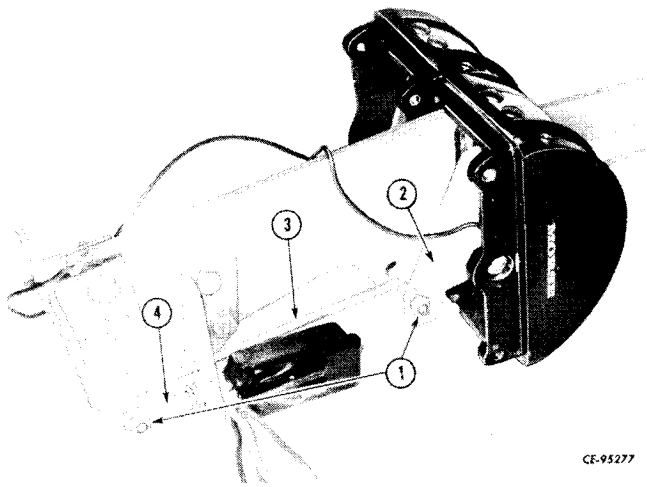

Figure 9-12
(4) so the flat side of pin is in position for the locking screw (3). Tighten lock screw (3). Position lever handles (2) on ends of control levers and install and tighten cap screws and nuts (1).
Install actuator lever (3, Fig. 9-12) connecting directional control lever (2) and the switch spool (4). Install and tighten "O"-rings and nuts (1).